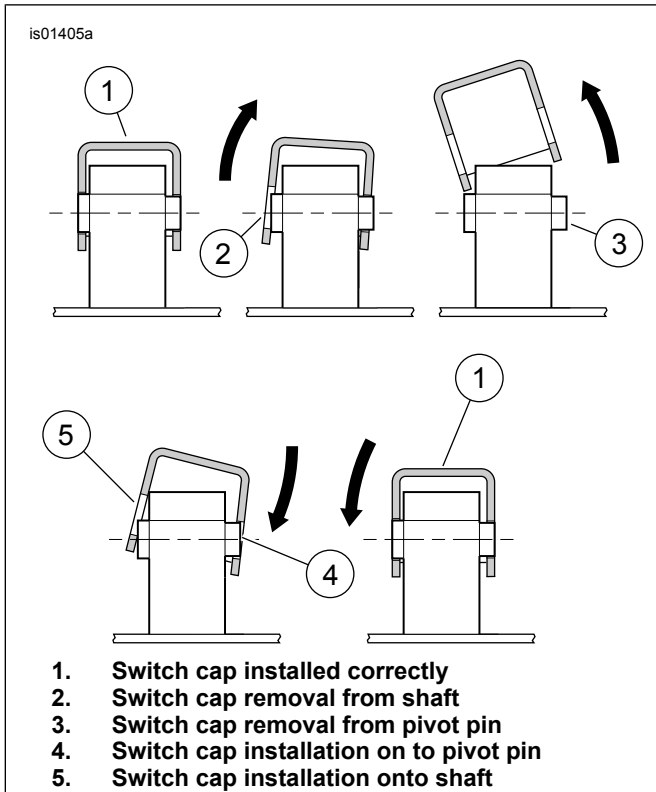
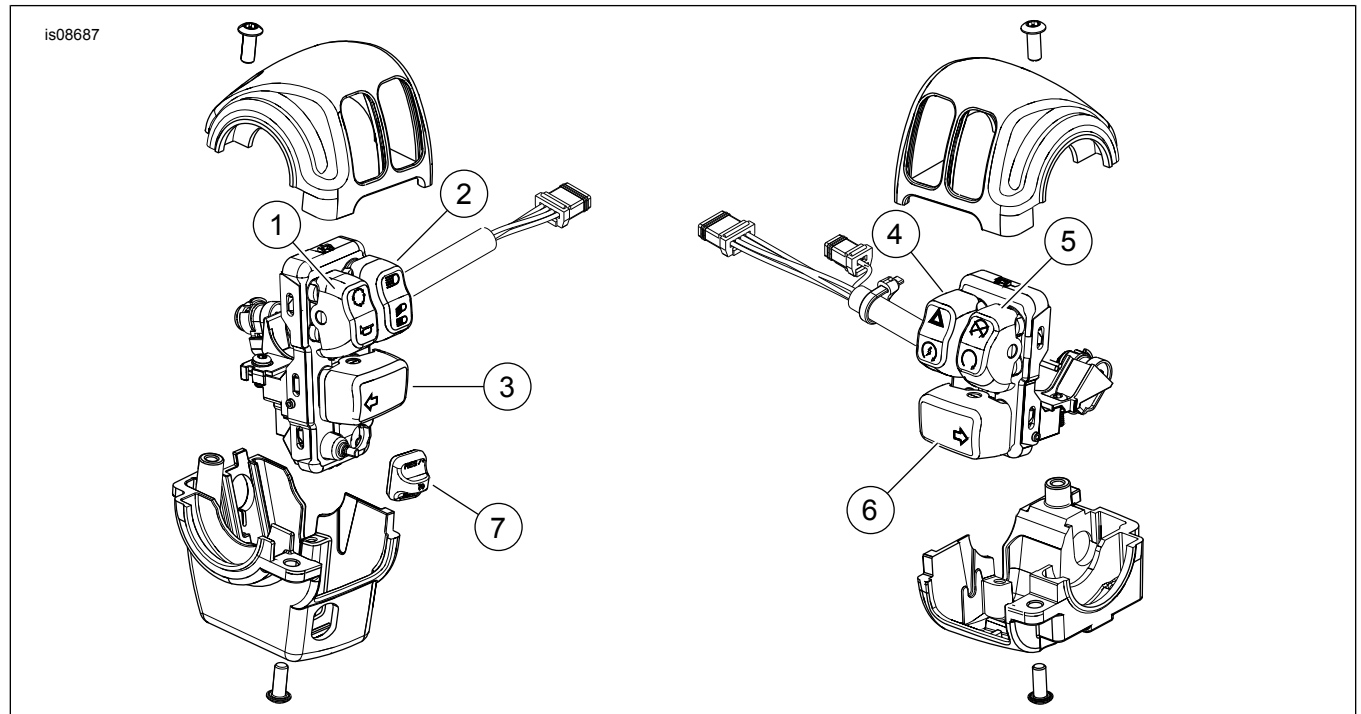

Figure 1. Switch Cap Removal and Replacement
Figure 3. Service Parts: Handlebar Switch Caps
See Figure 3 and Table 1.
1. See Figure 1 and Figure 3. Carefully pry stock black switch cap up off the pivot pin shaft (2) on left side of switch.
2. Pry the switch cap up and away from pivot pin (3) on right side of switch. Remove cap.
3. See Figure 3. Select proper replacement switch cap from kit.
4. See Figure 1. Place cap onto switch, angling the hole on right side over pivot pin (4) on switch.
5. Carefully press switch cap down onto left side pivot pin (5), rocking and moving the cap until shaft snaps into place.
1. See Figure 1 and Figure 3. Carefully pry stock black switch cap up off one of the pivot pins on switch.
2. Pry the switch cap up and away from the other pivot pin (3) on switch. Remove cap.
4. See Figure 1. Place cap onto switch, angling the hole on top over pivot pin (4) on switch.
5. Carefully press switch cap onto other pivot pin (5), rocking and moving the cap until shaft snaps into place in the hole.